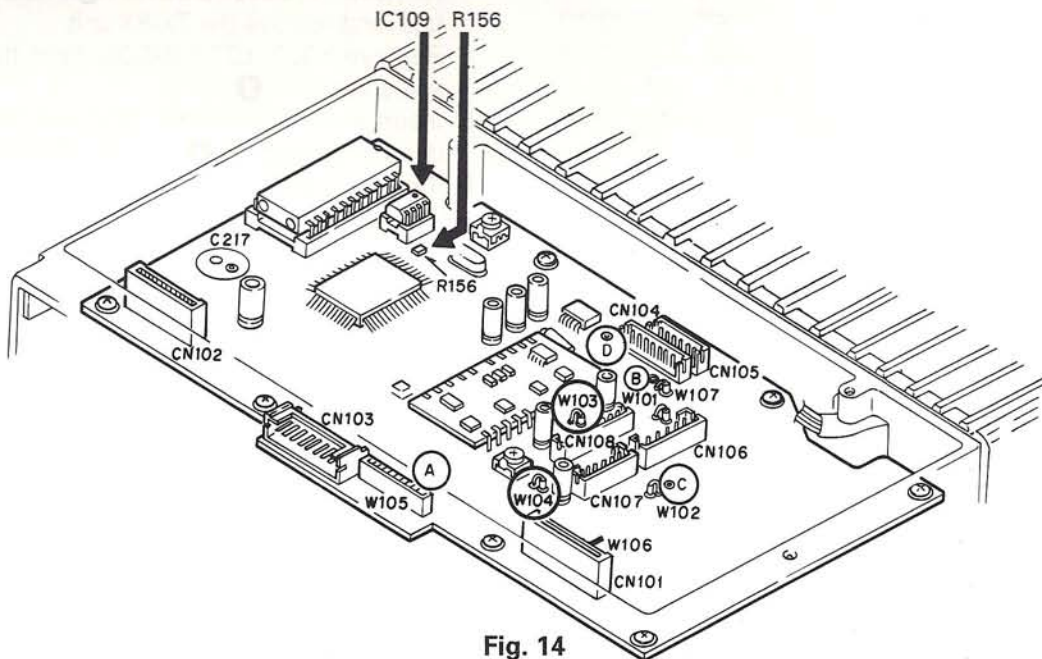

Fig. 14
2) Remove IC109 from the control unit (X57-3750 A/4) and install the KCH-5 EEPROM (X24C16PI) by soldering. (Fig. 14)
- 3) Remove R156 (R92-0670-05) of the control unit. (Fig. 14)
- 2) Remove IC109 (X24C04PI) of the control unit (X57-3750 A/4) from the socket, and install the KCH-5 (X24C16PI). (Fig. 14)